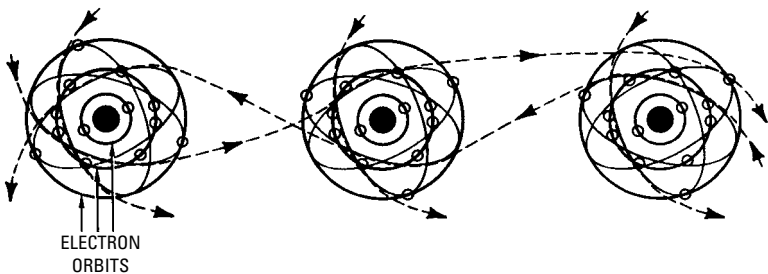
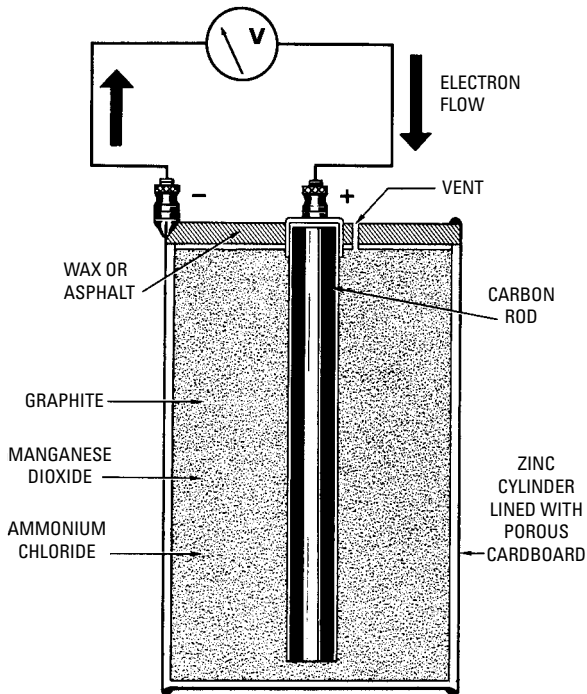
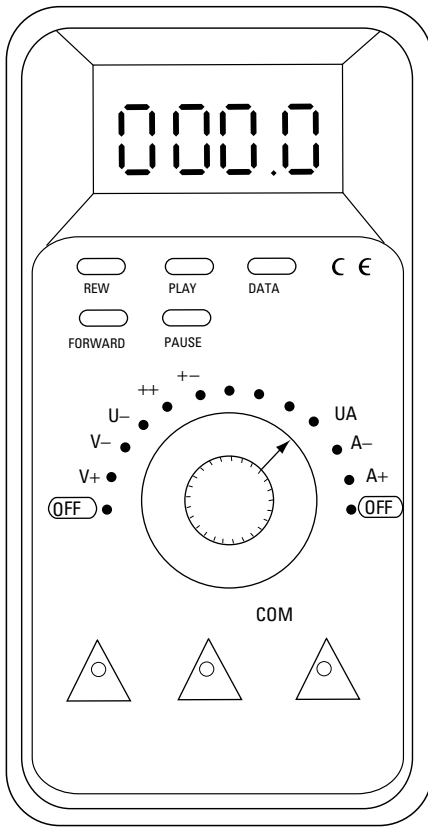
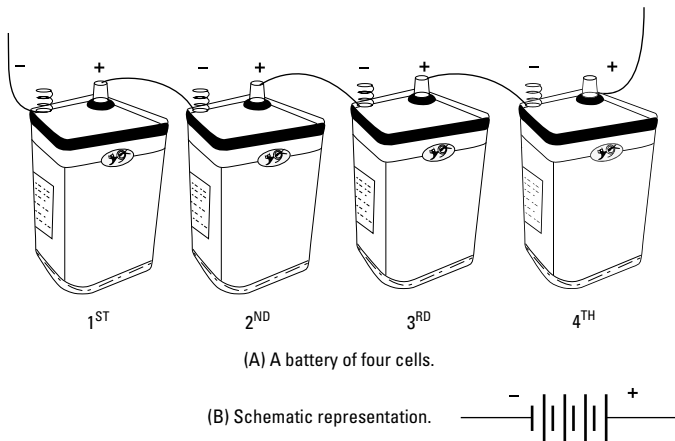

Figure 1-13 Atoms in a metal wire.
Figure 1-14 A dry cell produces electromotive force by chemical action.
Figure 1-21 Electricians now use combination testing machines such as this digital multimeter.
Figure 1-28 Illustrating series-connected dry cells.
Figure 1-13 shows three atoms in a metal wire. An electron in one atom can be transferred to the next atom under suitable conditions, and this movement of electrons from one end of the wire to the other end is called an electric current. Electric current is *electron flow*. To make electrons flow in a wire, an *electrical pressure* must be applied to the ends of the wire. This electrical pressure is a force called *electromotive force*, or *voltage*. For example, an ordinary dry cell is
a source of electromotive force. A dry cell produces electromotive force by chemical action. If we connect a voltmeter across a dry cell, as shown in Figure 1-14, electrons flow through the voltmeter, which indicates the voltage of the cell.
We measure electromotive force (emf) in *volts* (V). If a dry cell is in good condition, it will have an emf of about 1.5 V. Note that a dry cell acts as a *charge separator*. In other words, the chemical action in the cell takes electrons away from the carbon rod and adds electrons to the zinc cylinder. Therefore, there is an electron pressure or emf at the zinc cylinder. When a voltmeter is connected across a dry cell (see Figure 1-14), this electron pressure forces electrons to flow in the connecting wire, as shown in Figure 1-13. We observe that electrons flow from the negative terminal of the dry cell, around the wire *circuit*, and back to the positive terminal of the dry cell.
Figure 1-14 showed how the voltage of a dry cell is measured with a voltmeter. Current is measured with an *ammeter*. Resistance is measured with an *ohmmeter*. More electricians now use combination test instruments, such as the *multimeter* (a combination volt-ohm-milliammeter) shown in Figure 1-21. At this time, we are interested in the relation between voltage, current, and resistance. Ohm's law states that the current in a circuit is directly proportional to the applied voltage and inversely proportional to the circuit resistance. Thus, we write Ohm's law as follows:
Any circuit must contain a voltage source to be of practical use. Source voltages may be very high, moderate, or very low. A dry cell is a familiar 1.5-volt source, as was shown in Figure 1-14. When a higher voltage is required, cells can be connected in *series* to form a *battery*, as shown in Figure 1-28. Note that the negative terminal of one cell is connected to the positive terminal of the next cell. This series connection causes the cell voltages to be added. Since there are four cells in the example, the battery voltage will be approximately 6 volts. New dry cells usually have an emf of slightly more than 1.5 volts. As a cell ages, its emf decreases.
A simple voltage indicator consists of a neon bulb with a built-in dropping resistor and a pair of test leads. This type of tester is usually preferred when circuits are being checked in a wiring system. If the test leads are applied across a circuit in which 70 volts or more are present, the neon bulb will glow. The bulb will glow much brighter across a 240-volt circuit than across a 120-volt circuit. However, the brightness of the glow cannot be used to estimate the voltage value accurately. A neon tester is essentially a quick-checker. However, it is a very practical tester in general troubleshooting procedures. Many of the tests formerly performed in a laborious fashion by these instruments are now superseded by multitesting instruments, such as the one shown in Figure 1-21, some of which have digital and analog displays.